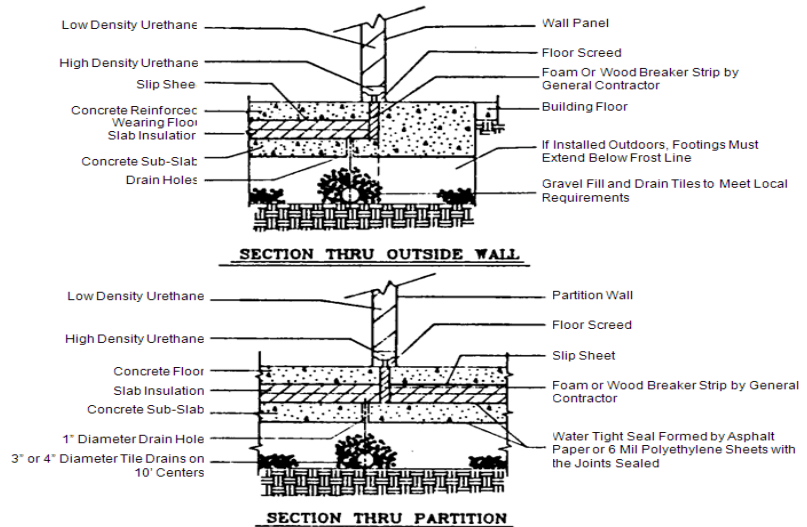

FIGURE 5 - BUILDING FLOOR SECTION
1. Most floorless applications require a building floor designed with slab insulation and breaker strips built into the floor by the general contractor (Refer to Figure 5). **Insulated wall panels and screeds, if supplied, must be installed on the breaker strip.** The breaker strip reduces heat transfer from the warm side of the panels to the cold side of the panels. The breaker strip must be exposed and not covered by concrete or mortar. Chip away any concrete that may be covering the breaker strip. The recommended breaker strip size is 2" x 8" with a minimum recommended size of 2" x 6".